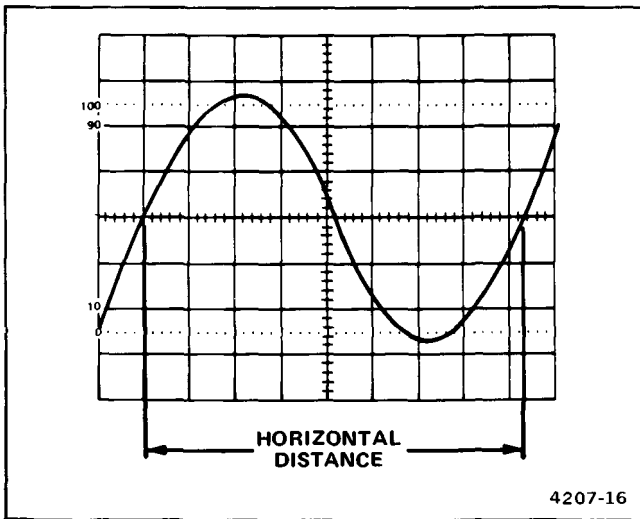

Figure 4-6. Time duration.
5. Position the display to place the time-measurement points on the center horizontal graticule line (see Figure 4-6).
**EXAMPLE:** The distance between the time-measurement points is 8.3 divisions (see Figure 4-6), and the A SEC/DIV switch is set to 2 ms. The X10 Magnifier switch is pushed in (1X magnification).
**EXAMPLE:** The signal in Figure 4-6 has a time duration of 16.6 ms.